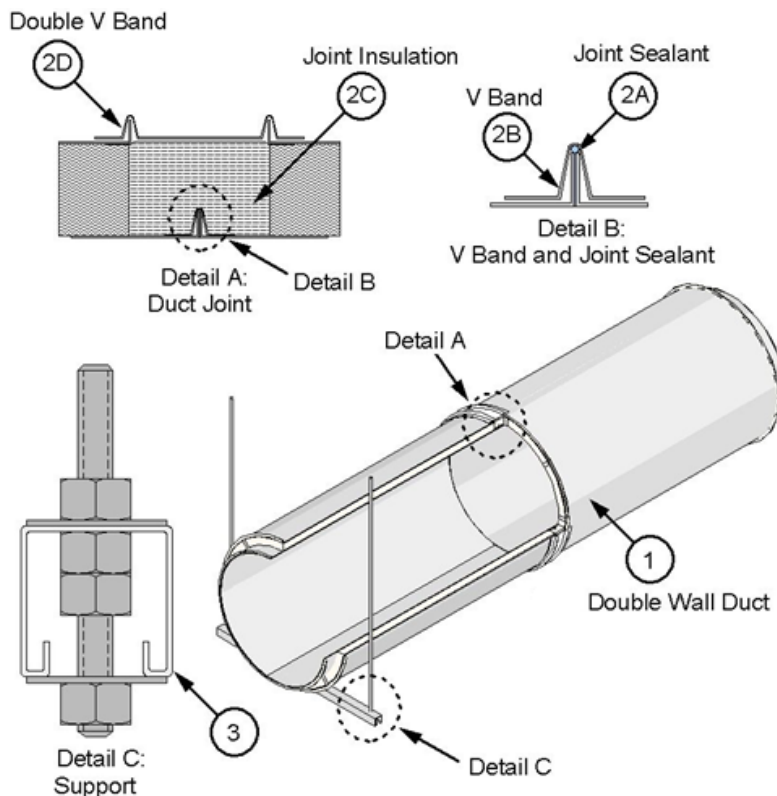

Figure 1. Double Wall Duct and Horizontal Support
B. V BAND – Use the supplied V band (see Figure 1). Place the loose V band, filled with joint sealant (Item 2A), over one of the inner duct flanges. Join to the other inner duct flange with the continuous bead of joint sealant (Item 2A) and rotate slightly to ensure complete coverage of joint sealant (Item 2A) on flanges. Ensure that the flanges are located within the V band and that the V band hardware is not at the bottom side of a horizontal duct. Tap the V band while tightening the integral 1/4-20
- D. **DOUBLE V BAND** – Use the supplied double V band (see Figure 1). Place double V band with outer shell flanges seated in the V band; tighten integral 1/4-20 hardware to 40-60 in.lbs.
- A. **HORIZONTAL SUPPORTS** – Support the pre-fabricated grease duct (Item 1) using min. 12 GA, 1-5/8 in. x 1-5/8 in. Unistrut® channel or 2 in. x 2 in. x 1/4 in. steel angle as the supporting cross-member and two, min. 1/2 in. diameter, threaded steel rods connected using Grade 5 hex nuts and 1/2 in. hardened washers (see Figure 1, Detail C). Connect the threaded steel rods to the bottom of the floor assembly using an attachment method designed to carry the weight of the pre-fabricated grease duct (Item 1) under a fire load equivalent to ASTM E 119 time-temperature curve for a 2-